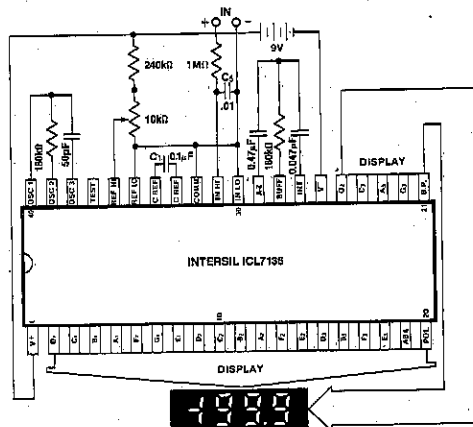

Figure 2. Clock Frequency 48kHz (3 readings/sec)
**Note 6:** 48kHz oscillator, Figure 2, increases current by  $20\mu\text{A}$  (typ).